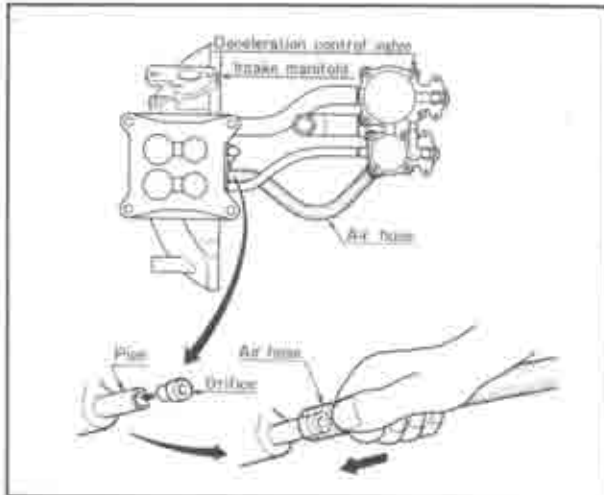

Fig. 4-38 Installing orifice.
- 2) Fix the orifice in the mouth of the pipe of the intake manifold, as shown in Fig. 4-38.